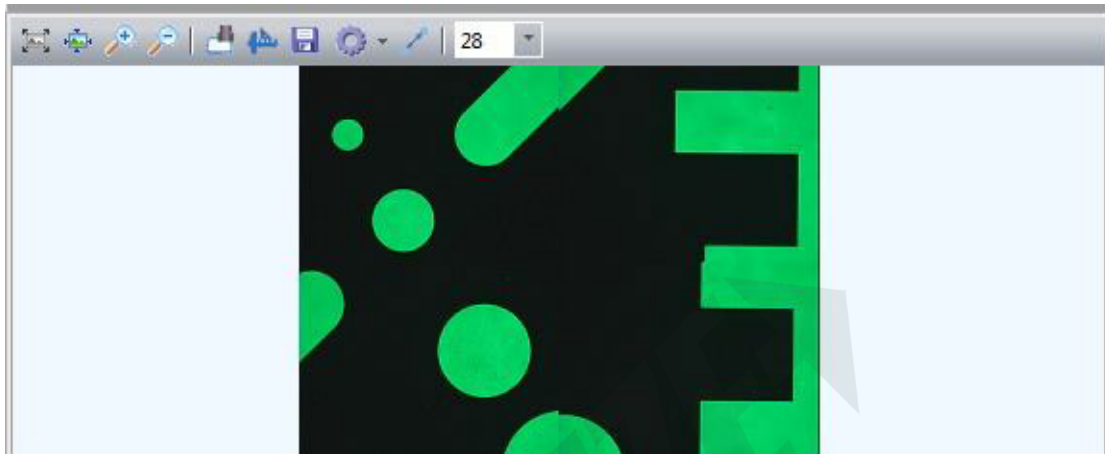

Fig.8-15
- (1) Select "scan workpiece" order in Fig.8-15, below window will appear:
(1) Select "input bitmap" order in Fig.8-15 to input the bitmap of the workpiece to image navigation window.
(2) Select "calibration" order in Fig.8-15, move the cross line to a specific location, then double click the left key on the place where the bitmap in the mage navigation window corresponds with the crossline.